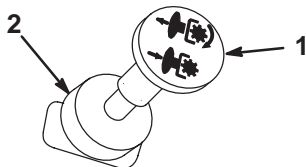

Figure 9
3. Pull out on the PTO switch to engage it (Fig. 9).
Push the PTO switch to Off (Fig. 9).